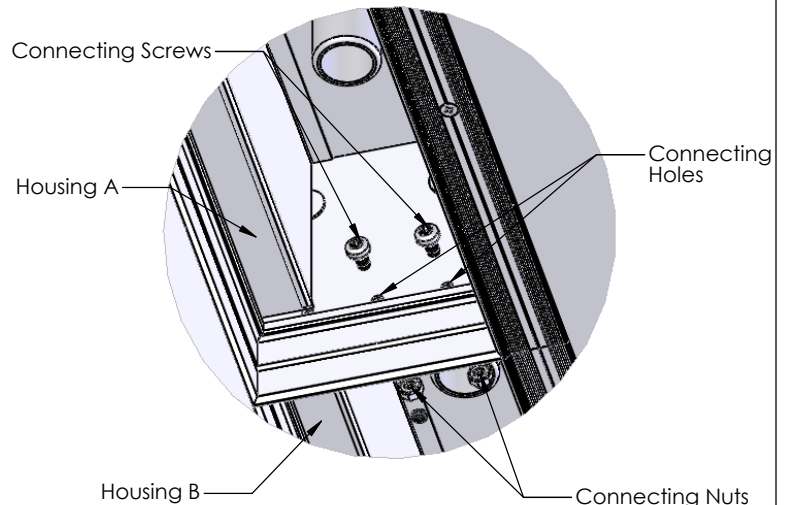

FIGURE 4
4a. If two or more Stealth Graze Housings are being used, align Housings into Ceiling, butting fixtures end to end tightly. Place two (2) Connecting Screws through Connecting Holes on Housings, and secure with Connecting Nuts. (Figure 4)